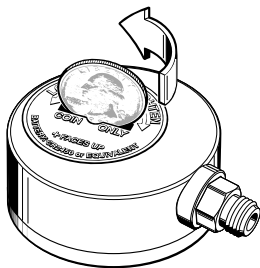

Figure 15
3. Using a coin (never use a screwdriver) turn the battery hatch counterclockwise and remove it from the case back (figure 15).